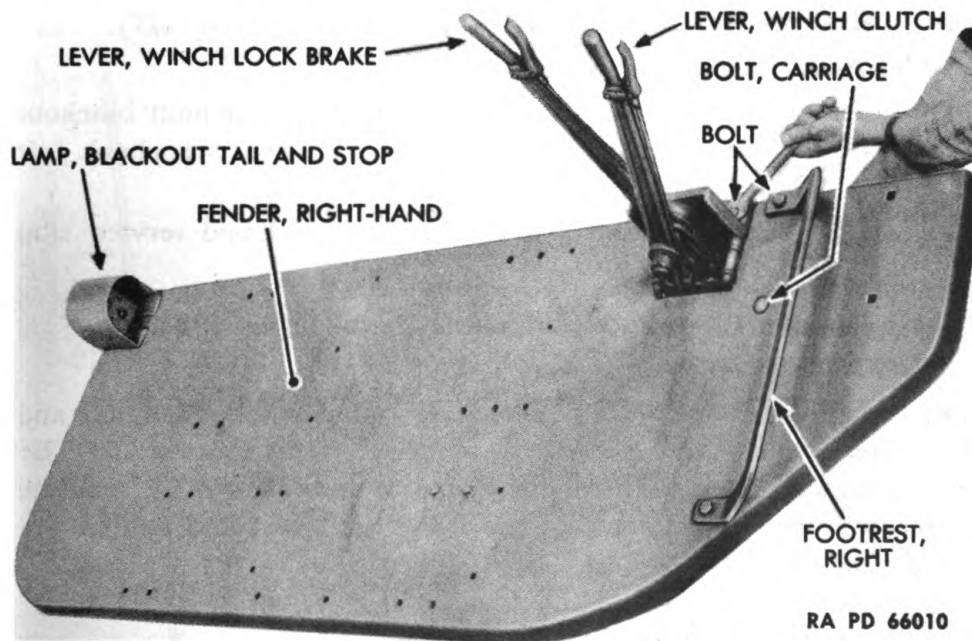

Figure 195 – Winch Shifter and Brake Lever Removal from Right Fender
(17) **REMOVE WINCH SHIFTER LEVER AND WINCH BRAKE LEVER FROM RIGHT FENDER** (fig. 195).
(18) **REMOVE RIGHT FOOTREST** (fig. 195).
(19) **REMOVE BLACKOUT TAIL AND STOP LAMPS** (fig. 195).
(20) **REMOVE LEFT FOOTREST FROM FENDER** (fig. 195).
(1) **ATTACH LEFT FOOTREST TO LEFT FENDER (fig. 195).**
(2) **ATTACH BLACKOUT TAIL AND STOP LAMPS TO FENDERS (fig. 195).**
(4) INSTALL WINCH SHIFTER LEVER AND WINCH BRAKE LEVER ON RIGHT FENDER (fig. 195).